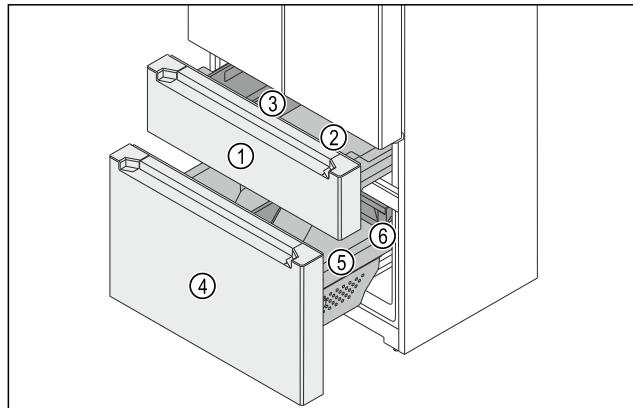

Fig. 149 Freezer section pull-out telescopic drawers
(1) Upper telescopic unit	(4) Lower telescopic unit
(2) Container	(5) Container
(3) FlexBox	(6) Drawer
The freezer section consists of two pull-out telescopic drawers. The upper telescopic unit Fig. 149 (1) contains a container Fig. 149 (2) and a FlexBox Fig. 149 (3). The lower telescopic unit Fig. 149 (4) contains a large container Fig. 149 (5) and a drawer Fig. 149 (6). The containers in the upper and lower telescopic units can be removed for cleaning.